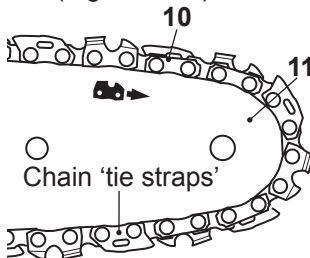

Fig. 11
1. Check the chain tension using one hand to lift the saw chain (10) against the weight of the product. The correct chain tension is achieved when the saw chain can be lifted by approximately 2 - 4 mm from the guide bar (11) in the centre (Figs. 11, 12).